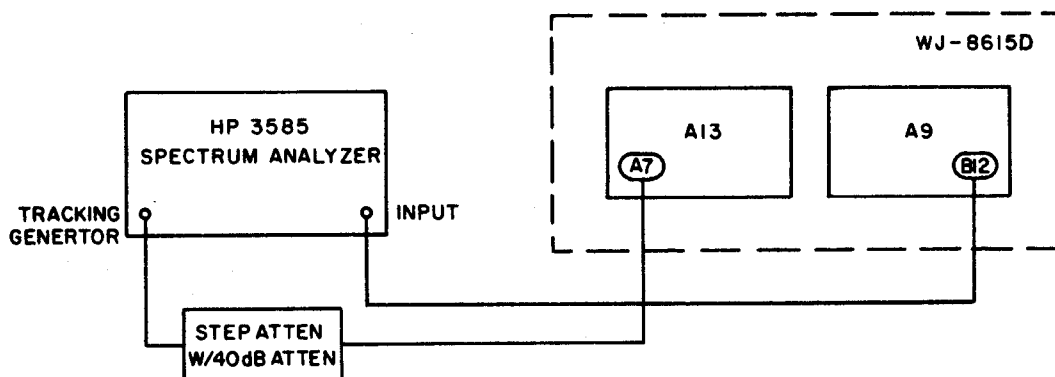

Figure 4-14. IF Amplifier, Equipment Connections
- 2) Connect the equipment as illustrated in **Figure 4-14**.